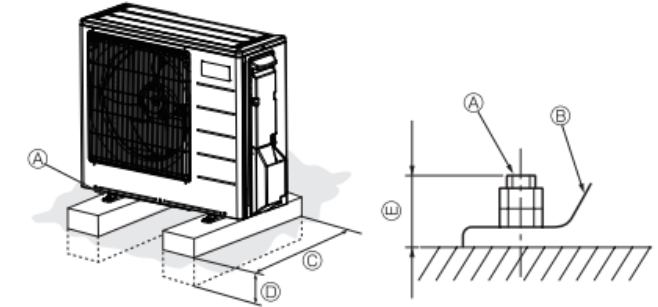

Fig. 3-1
- Be sure to install the unit in a solid, level surface to prevent vibration noises during operation. (Fig. 3-1)